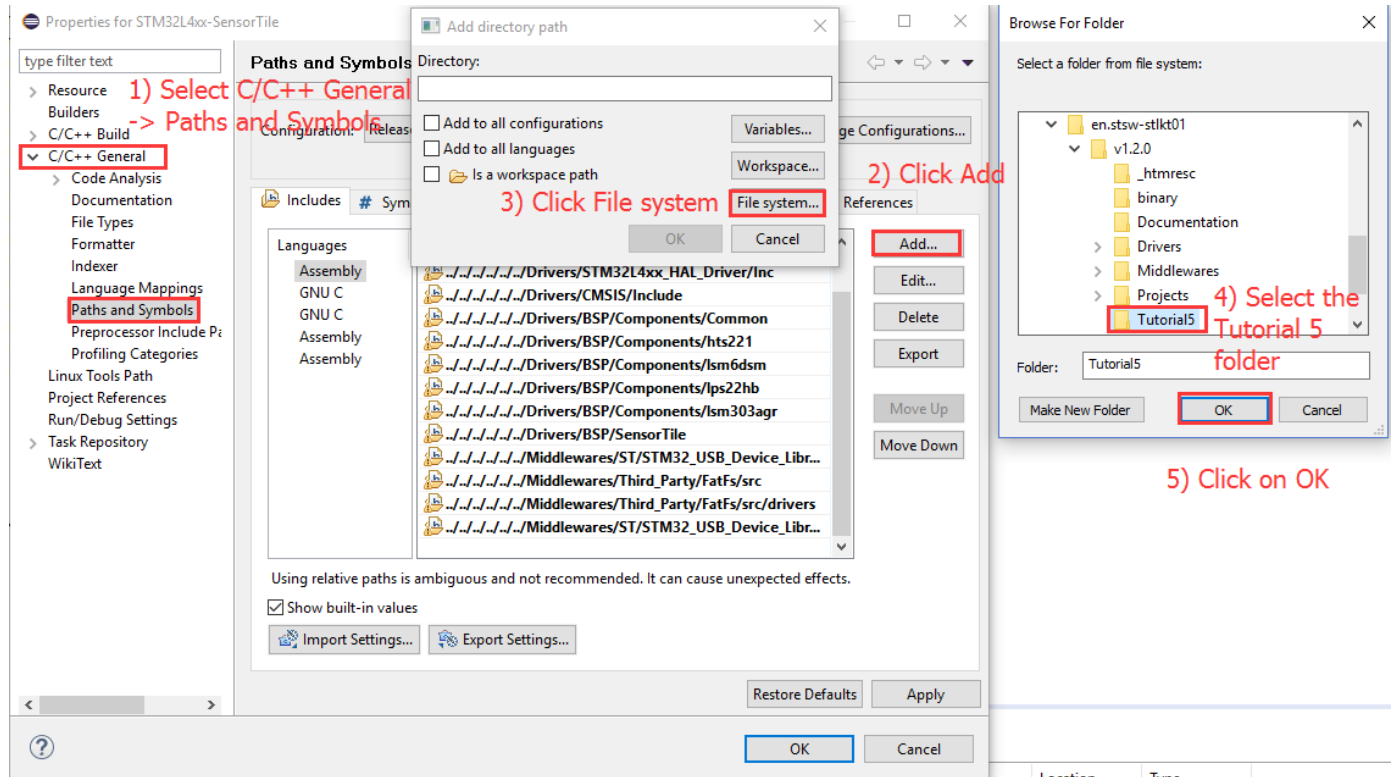

Figure 9: Adding a new path.
11. Add the header to the includes paths as instructed in Figure 9. This enables System WorkBench to find the dependent header files for the related sources files.